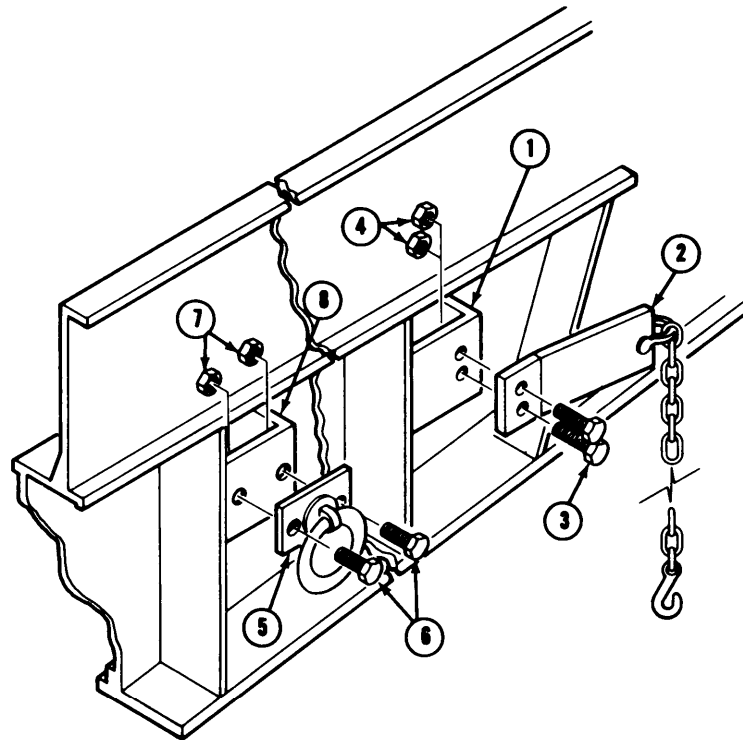

Figure 5-4. Frame Bracket Assembly
- Ensure positioning block (7) of the towbar is placed downward
- b. Slide flat washer (5) and lock washer (4) over the end of T-lock (6).
- c. Thread lock handle (3) on T-lock (6):
- d. Tap roll pin (2) through T-lock (6) with a hammer.
5.5.2 Safety Chain Assembly (Fig. 5-4)
a. Insert mounting bolts (3) through the holes in mounting plate (2) and frame bracket (1).
b. Thread locknuts (4) onto the ends of bolts (3). Tighten by hand.
c. Place a 3/4 inch box wrench on locknuts (4) and a 3/4 inch socket and ratchet over bolts (3) and tighten securely.
5.5.3 Lift Ring Assembly (Fig. 5-4)